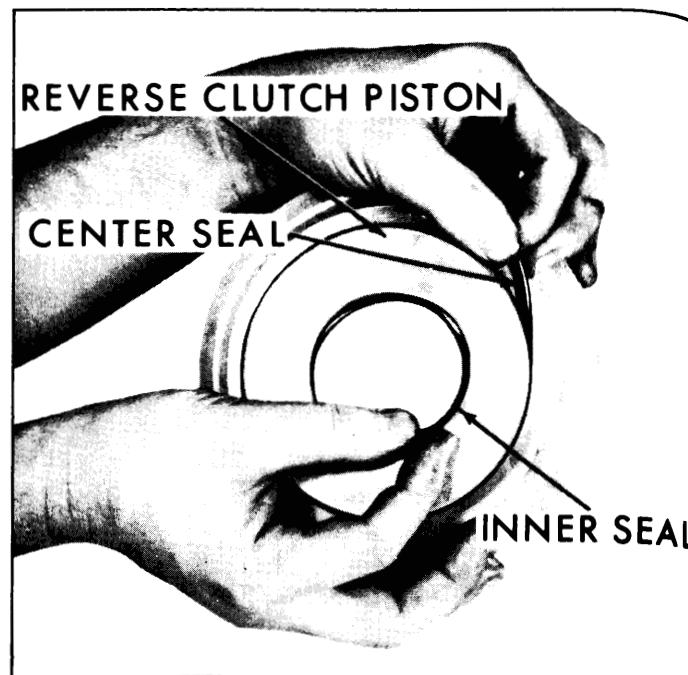

Fig. 7-55—Removing Low and Reverse Clutch Piston Center and Inner Seal
24. Remove low and reverse clutch piston center and inner seal. (Fig. 7-55)